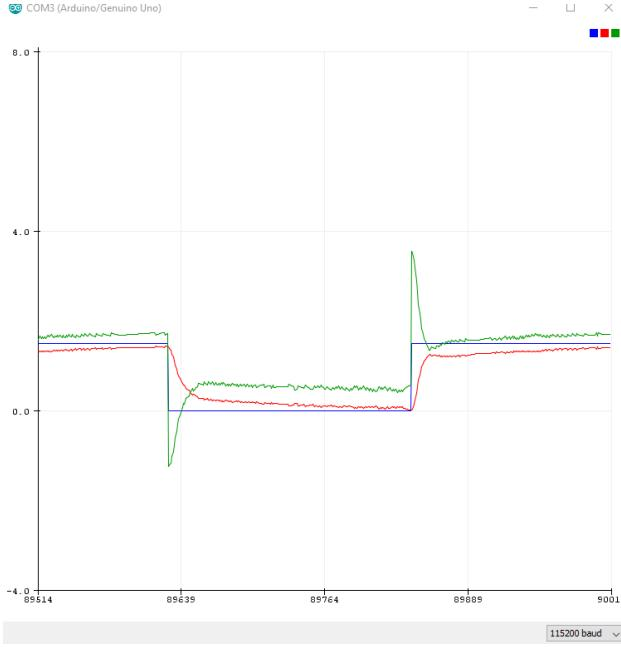

Figure 3: The colors in the legend are read from left to right, and correspond to the wave-forms in the order, **set_point** (blue), **filt_vel** (red), and **vc** (green).
3. Set $K_p = 60$ (keep $K_i = K_d = 0$) and upload the code to Arduino. Open "Serial Plotter" in the Arduino IDE to monitor the three waveforms: `set_point`, `filt_vel`, and `vc`. `vc` is the voltage command sent to the motor. A color legend will be in the upper right of the serial plotter. The colors in the legend are read from left to right, and correspond to the wave-forms in the aforementioned order (see Fig 3 for a sample plot). Capture the step response using a screen capture or the included Matlab script `SerialRead.m`.